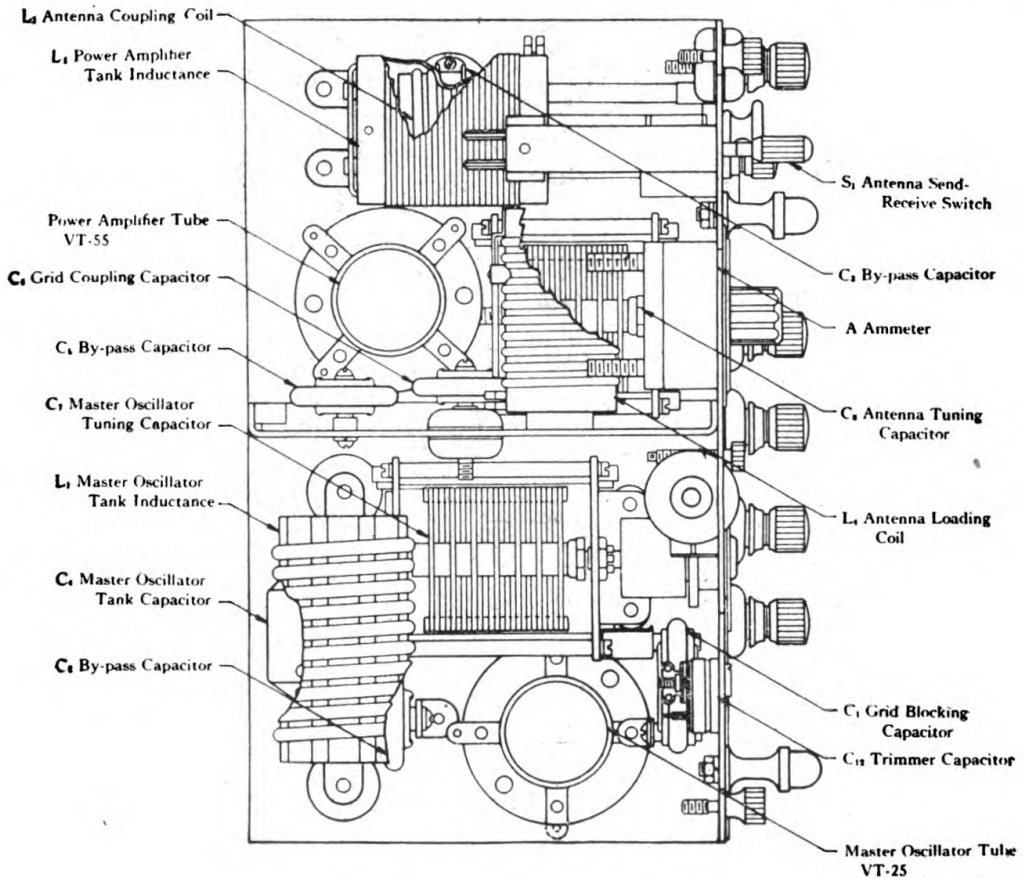

FIGURE 16.—Radio transmitter BC-187, top view.
**18. Servicing.**—The component units of the set should be inspected and cleaned periodically to determine that they are mechanically and electrically in good operating condition. Tubes should be tested with a test set or by interchanging with tubes known to be satisfactory. Use batteries the voltage of which is at least 80 percent of the rated voltage as indicated by a reliable voltmeter. Batteries indicating lower voltages decrease the operating efficiency considerably and are likely to be noisy. Check all connections regularly as loose and broken leads are the source of most operating troubles. For location of circuit elements see figures 16, 17, 19, 21, 28, and 29.